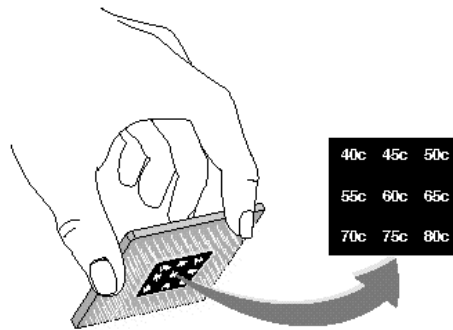

Figure 6. Ceramic Package Pentium Processor with Thermal Indicator Label
3. Figure 6 shows correct placement of the label on the processor.